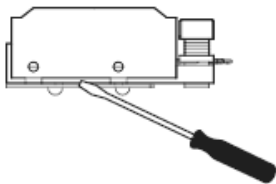

Fig. 3
- Remove the terminal cover with the aid of a screwdriver (see Fig. 3)